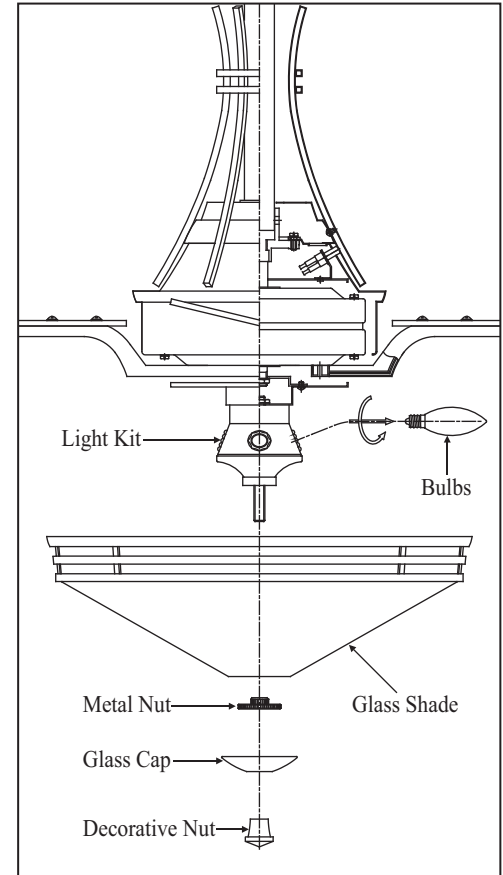

Figure 17
1. Install 3 x 40W candelabra bulbs (included). (Fig. 17)
2. Remove the decorative nut, glass cap and metal nut from the light kit. Place the glass shade over the light kit stem and secure with the metal nut (rubber side on the top). Place the glass frame over the light kit stem, secure with the glass cap and decorative nut. Do not overtighten. (Fig. 17)